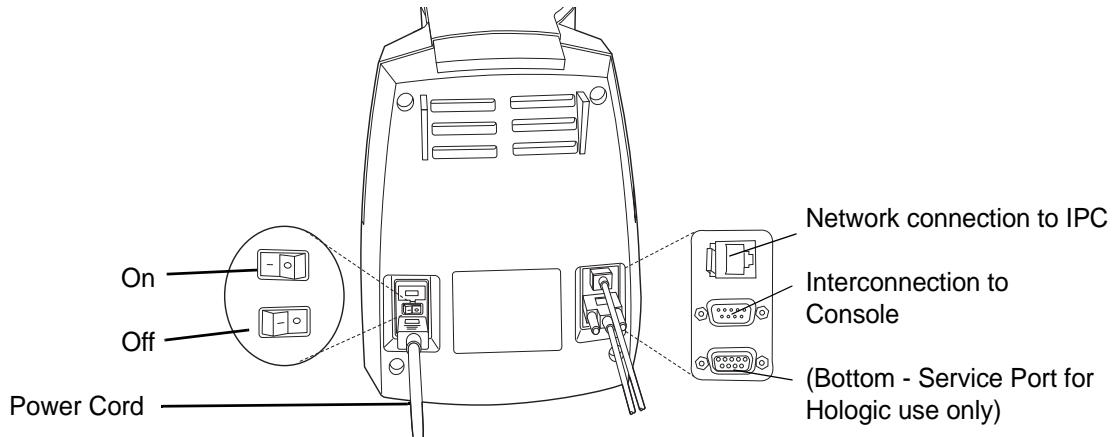

Figure 5-2 Rear of Microscope
2. Unplug the power cord and communication cables on the rear of the microscope. (Refer to Figure 5-2.)